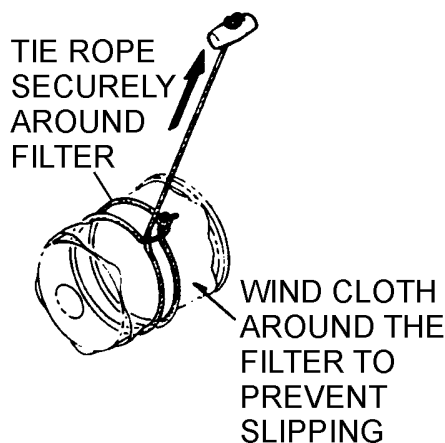

Figure 35. Cloth and Rope Around Filter
4. To remove the oil filter, wind a cloth around the filter to prevent slipping (Figure 35).
5. Tie a rope securely around the filter (Figure 35).